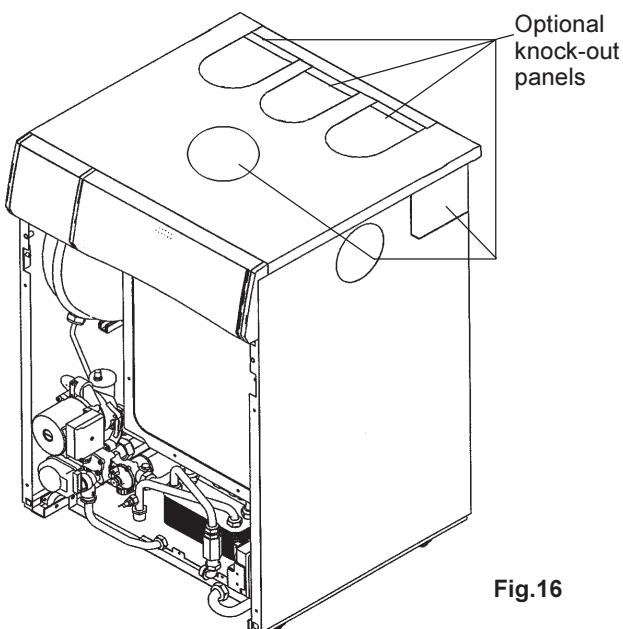

Fig.16
**5.5.2 Concentric vertical flue (see fig. 16 & 16a)**